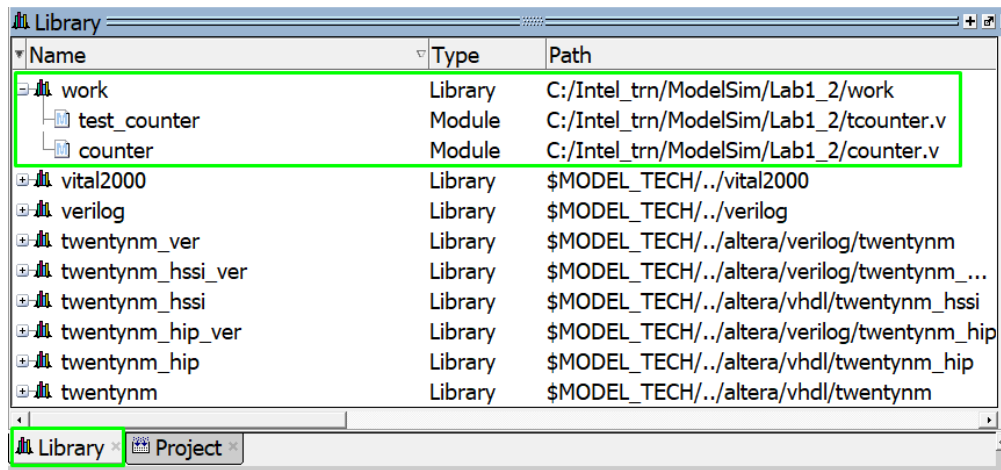

Figure 40
- a. Click the **Library** tab (Figure 40).